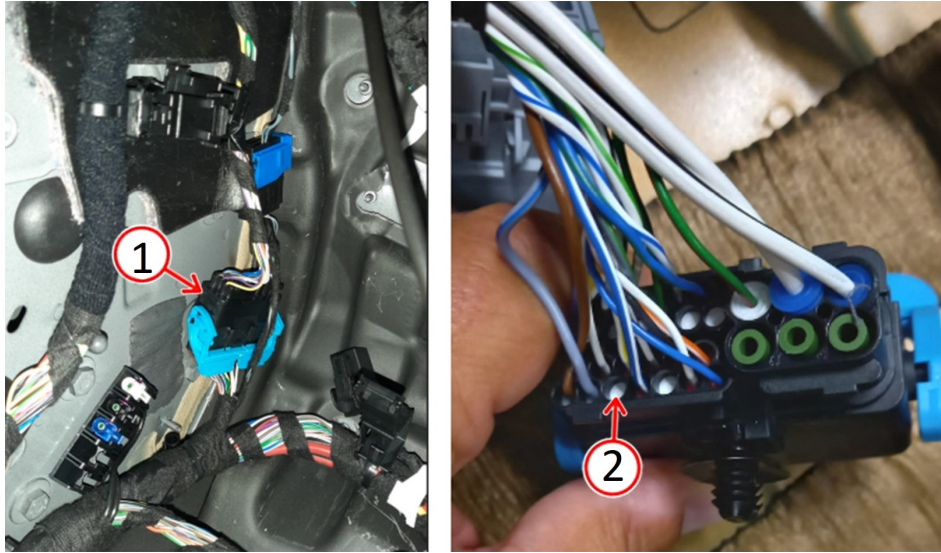

Fig. 2
2. Locate the 32-way junction between the rear and vehicle wiring harness under the dashboard on the left side, recognizable by the blue lever (Fig. 2) .
3. Locate pin 30 on the vehicle wiring side connector to which the new (Mopar #50575355) harness is to be connected (Fig. 2) .